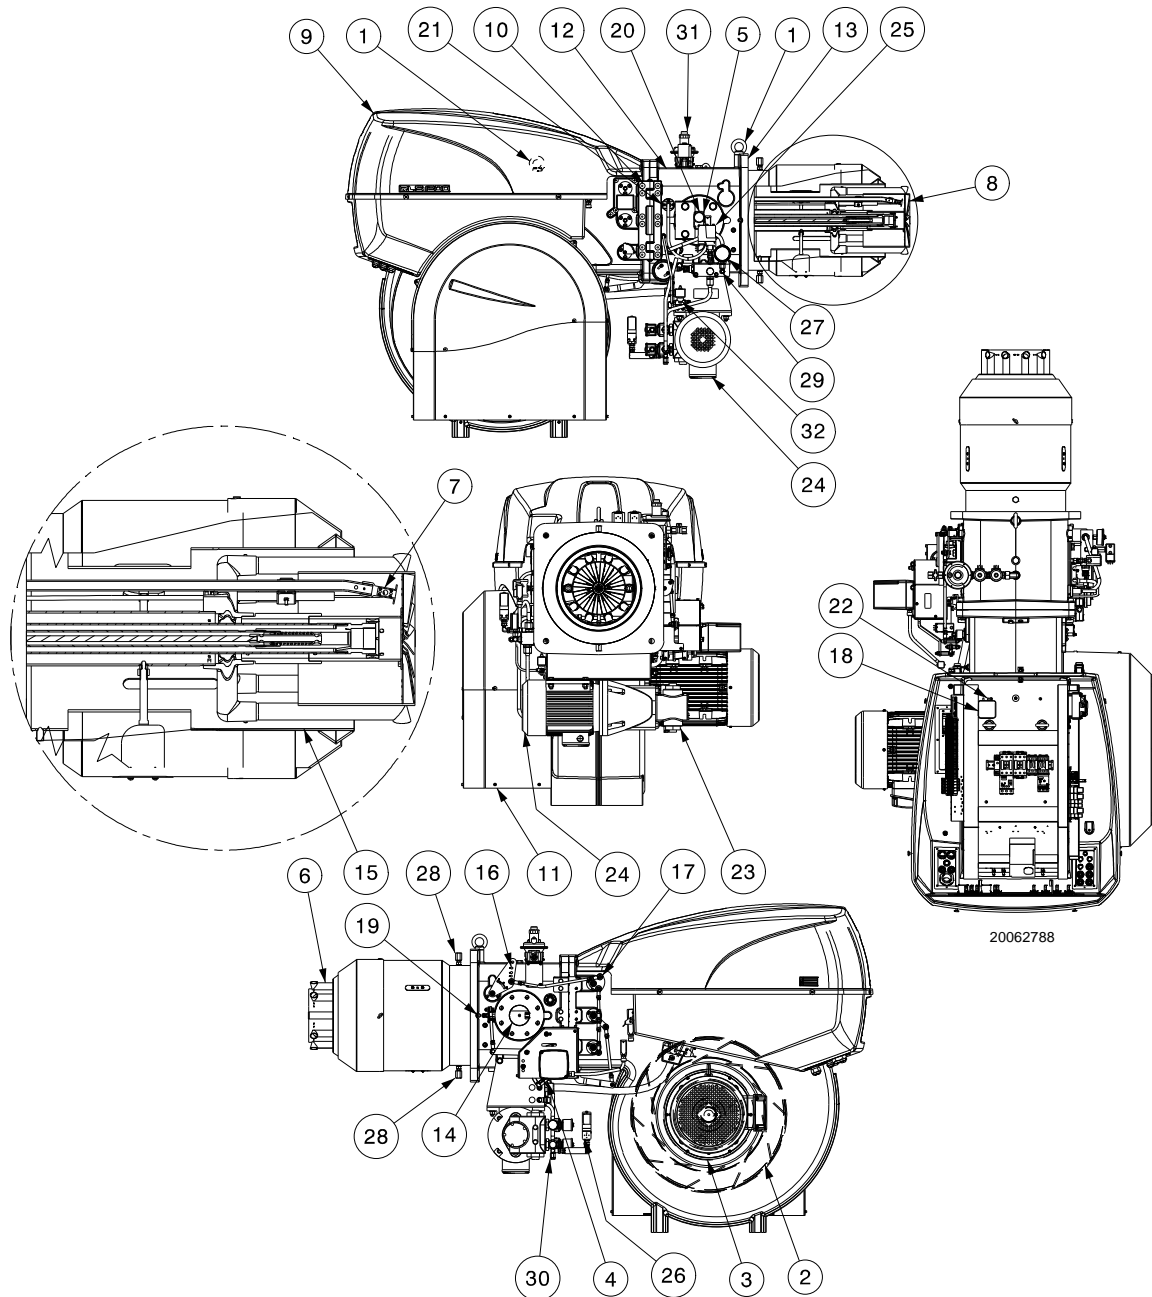

Fig. 4
(1) Reference conditions: Room temperature 20°C - Gas temperature 15°C - Barometric pressure 1013 mbar - Altitude 0 m a.s.l.
(2) Pressure on the socket 5) (Fig. 4) with zero pressure in the combustion chamber and at maximum burner output.
(3) Noise emission tests carried out as specified in EN 15036-1 with measurement accuracy $\delta = \pm 1.5$ dB, in the manufacturer's combustion chamber with burner operating on test boiler at maximum output.
The gas can only enter from the left side of the burner as shown in Fig. 4.